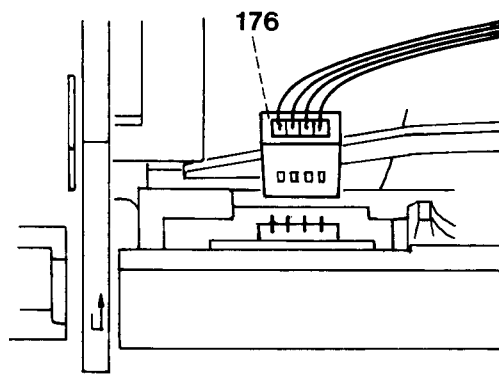

Fig.51c
- Replace four-bush connector 176 or nine-bush connector 177 with the white wire facing left (Figs. 51c or d).